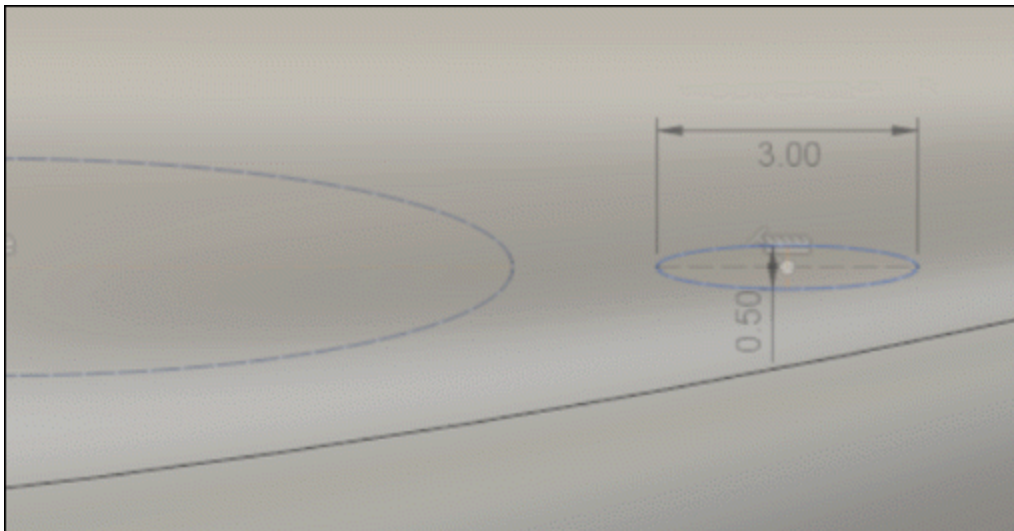

Figure-53. Sketch for rear wing
- Create another ellipse on the newly created offset plane as shown in Figure-53.